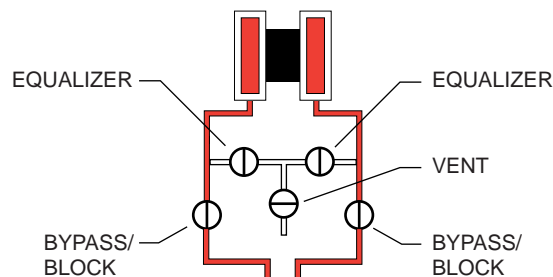

Figure 2.19—Valve positions for placing the Scanner into operation
1. Close the vent valve (Figure 2.19).